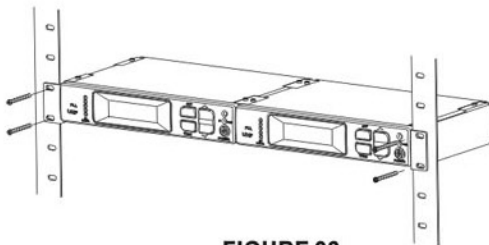

FIGURE 33
6. Slide the linked receivers into a 19-inch audio equipment rack, as shown in Figure 33.